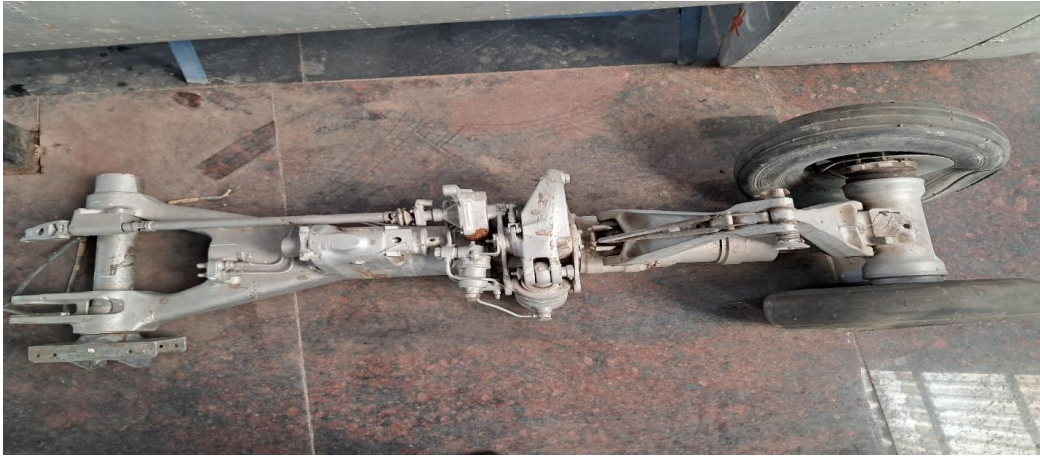

Fig. 1.1.2: Landing gear of an actual aircraft
- Actual landing of an aircraft is shown in Fig. 1.1.2.